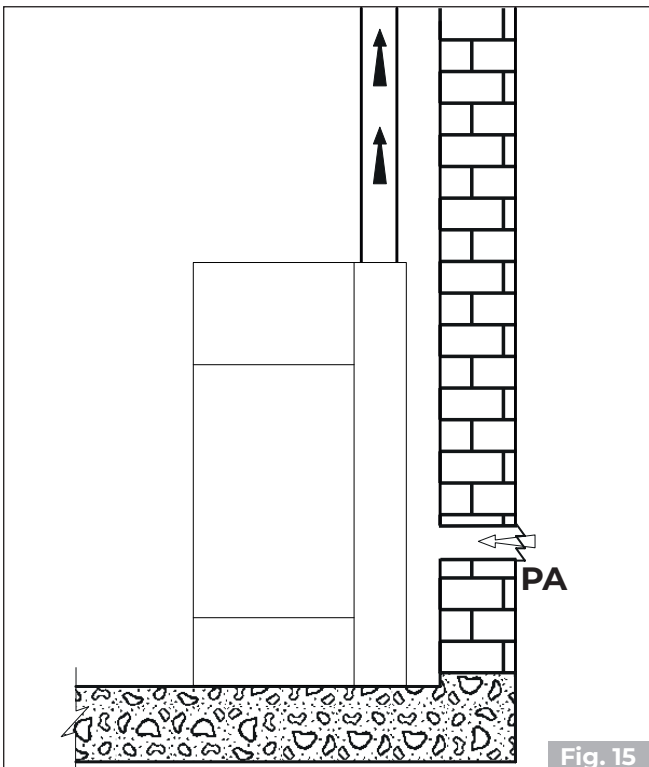
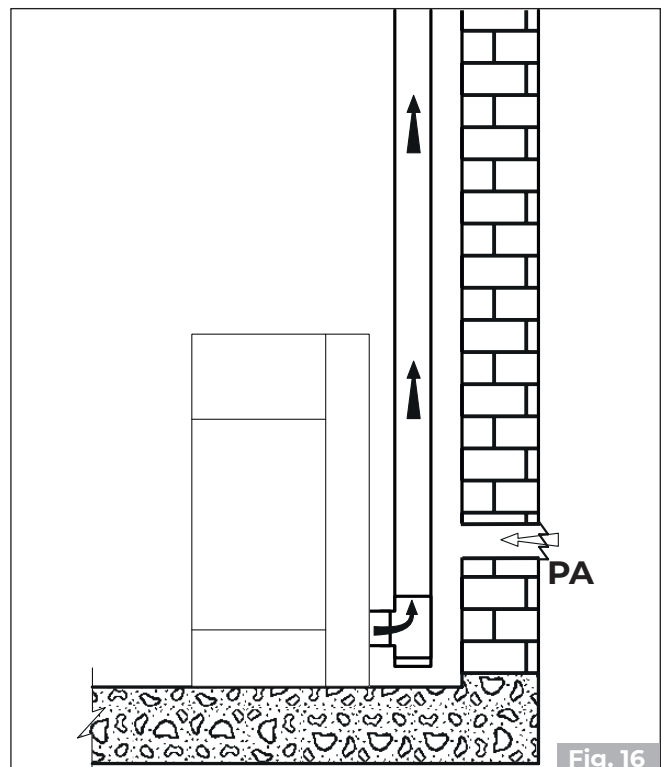

Fig. 15
Fig. 16
- it can come from the installation room or suitable adjacent rooms (“Fig. 15” “Fig. 16”)
Create the air intake on the wall (“Fig. 15” “Fig. 16” - PA = Air Intake), and leave the appliance to withdraw the room air, making sure to connect the section of corrugated pipe on the air inlet pipe, if supplied, fixing it with the strap and folding it slightly downwards to prevent any resonance effects.